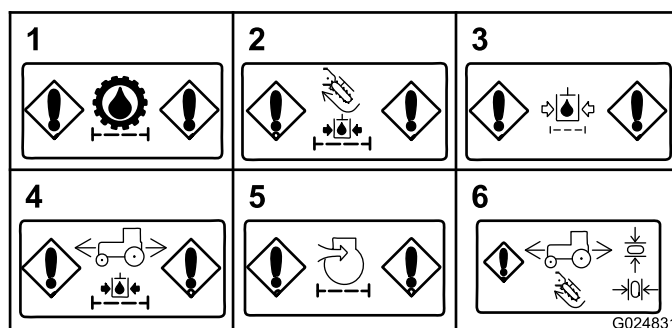

Figure 35
- **Hydraulic-charge filter restriction (transmission)**—This message is displayed if the hydraulic-charge filter for the transmission is restricted (Figure 35).
- **Hydraulic-charge filter restriction (accessories)**—This message is displayed if the charge filter for the hydraulic circuit for the accessories is restricted (Figure 35).
- **Hydraulic-return filter restriction**—This message is displayed if the hydraulic-return filter is restricted (Figure 35).
- **Hydraulic-charge filter restriction (traction motor)**—This message is displayed if the charge filter for the traction motor is restricted (Figure 35).
- **Air-filter restriction (engine)**—This message is displayed when the air filter requires service (Figure 35).
- **Return to Neutral indicator**—This indicator is displayed if you attempt an operation that requires you to return the joystick or the traction pedal to the Neutral position. Return the joystick or the traction pedal to the Neutral position before continuing operation (Figure 35).